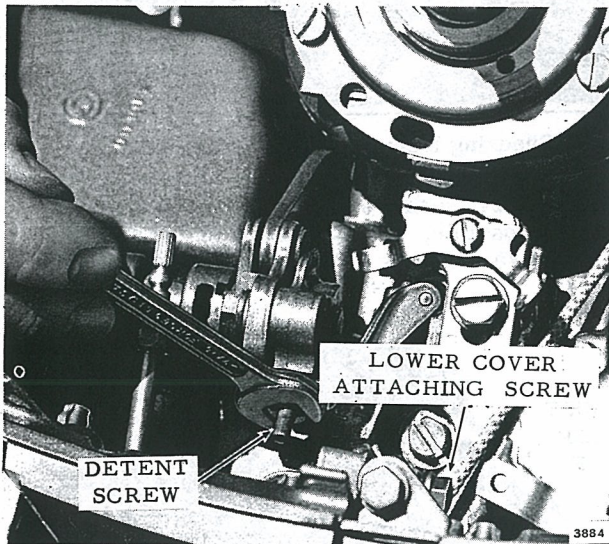

Figure 5-5. Removing Shift Lever
- d. Remove shift rod lever and shaft by first unscrewing detent screw, then pulling shift lever from starboard lower cover. See Figure 5-5.
- f. Remove starboard lower cover. Locations of attaching screws and nut are shown in Figure 5-5, 5-6, and 5-7. Remove the port and starboard side friction plate screws. See Figure 5-7. Remove the one screw and nut from the starboard side first. Then remove five screws from the port side.